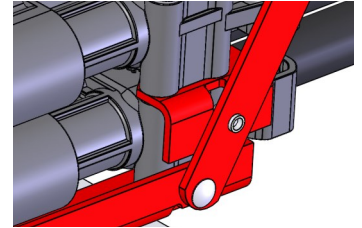

Figure 4
- Drop Battery Connector Assembly onto the pins (see figure 4).